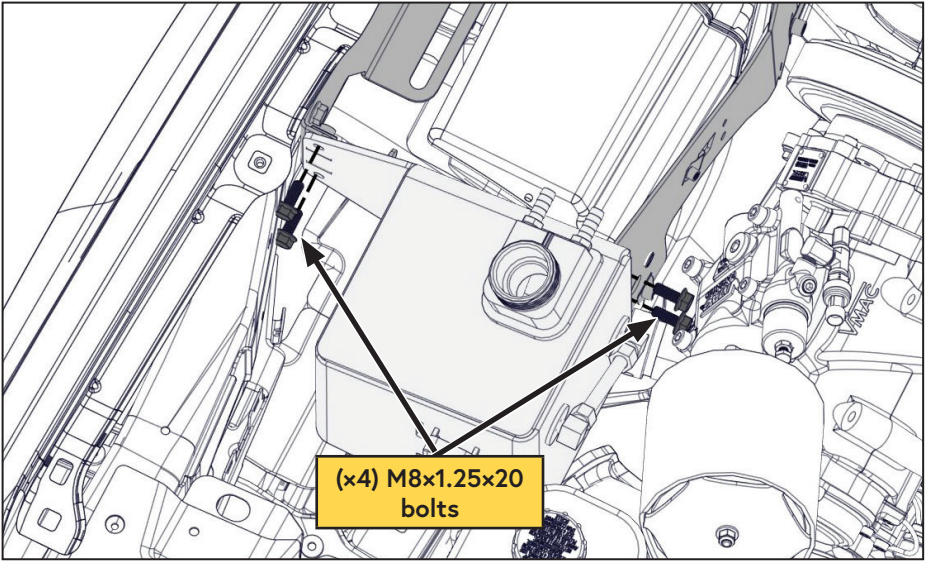

Figure 84 — Install the degas tank
- ☐ Using the supplied fasteners, mount the degas tank (Figure 84).